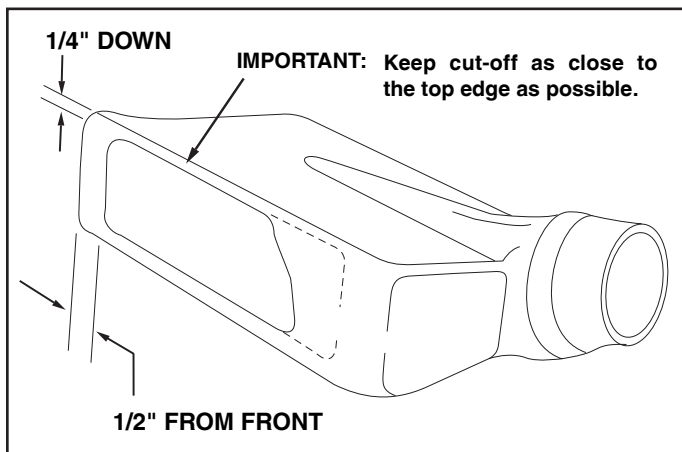

FIGURE 29
3. Tape the template to the face of the adapter, about 1/2" from front and 1/4" down from top for deeper decks. For shallow decks, position template low enough that adapter will not extend below bottom of deck. Mark outline of template on face of adapter using white crayon, nail or scribe. Drill a starting hole inside the outline, then use a saber saw or key hole saw to cut out the opening. See figure 29.